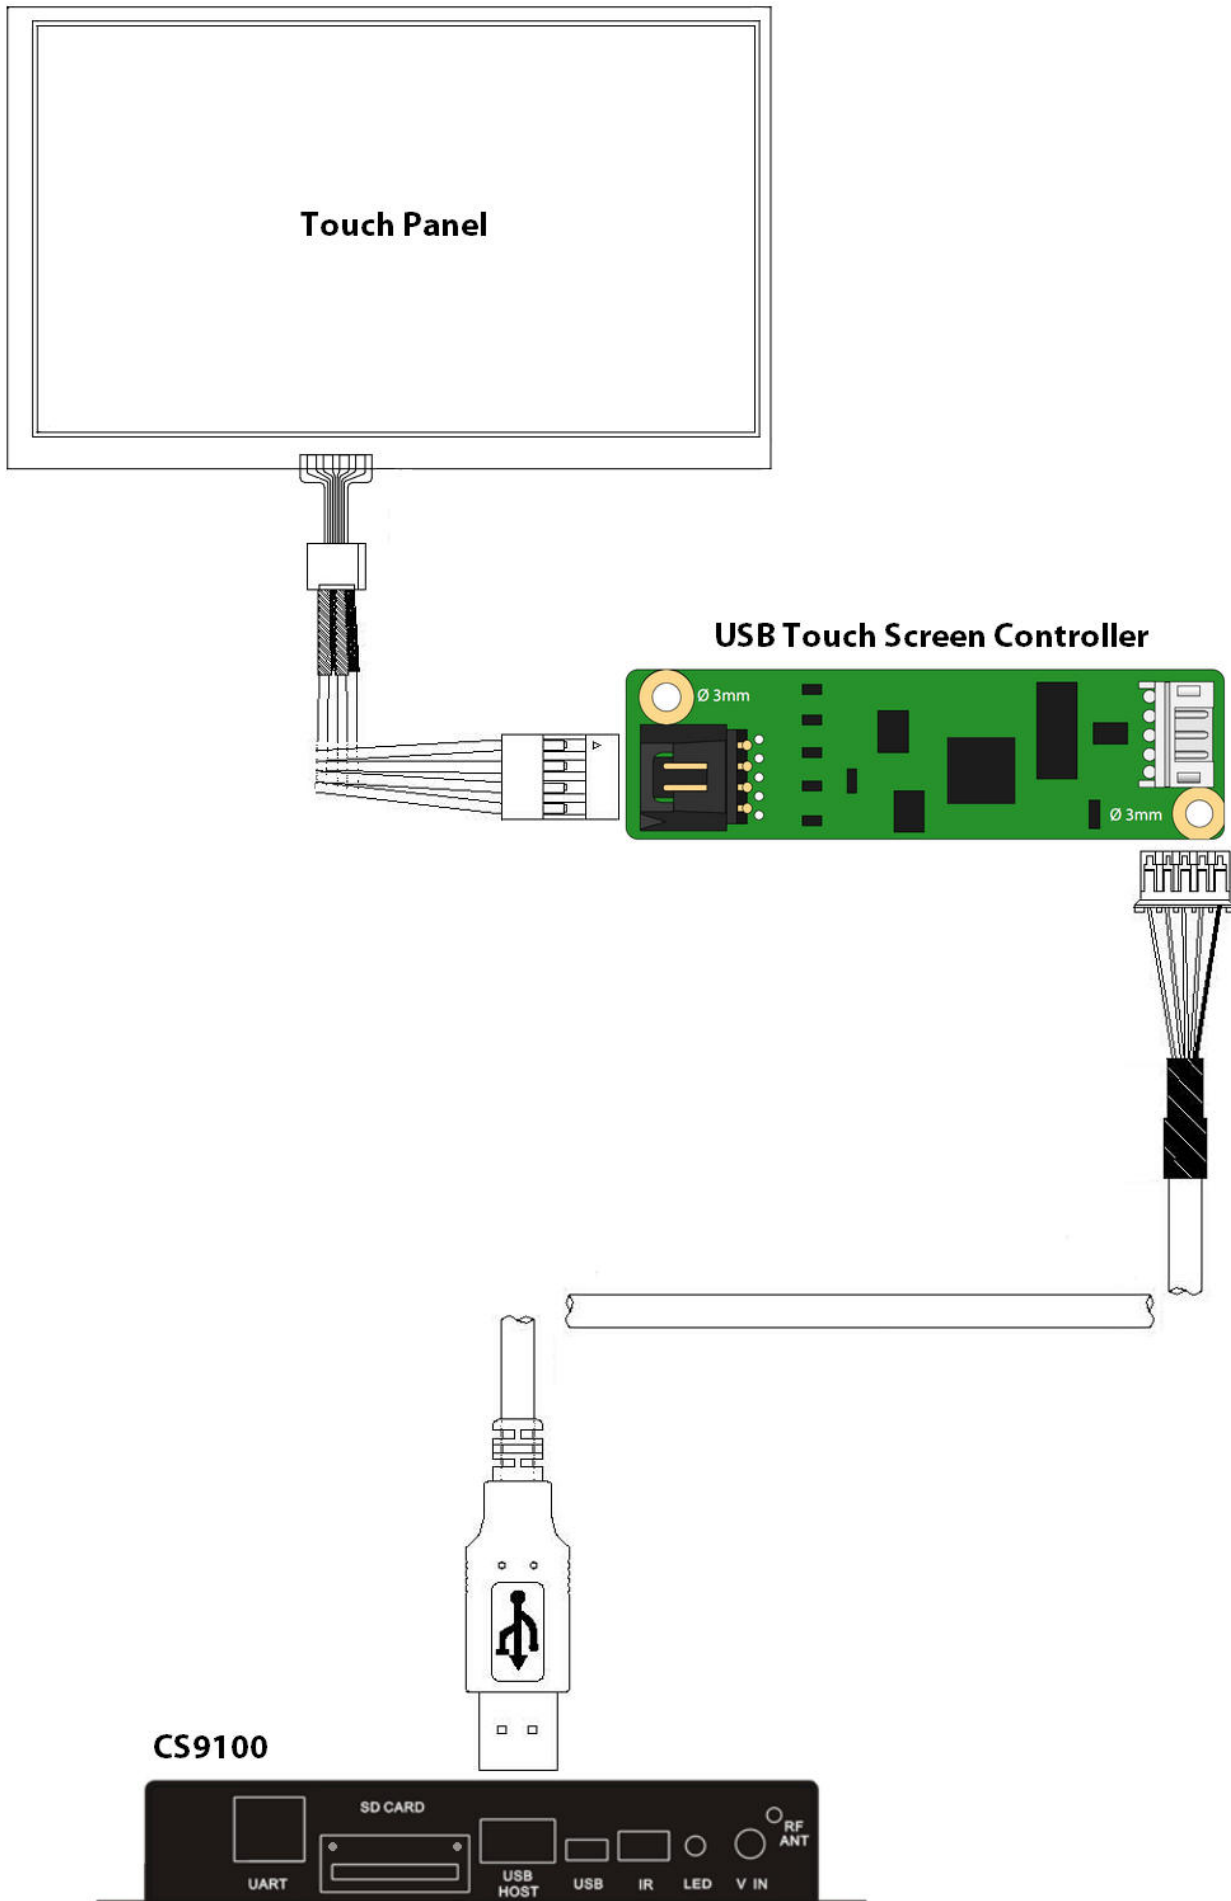

Figure 19
12. The wire connection diagram for connecting a touch panel to the **CS9100** navigation block is shown below (**Fig. 19**).